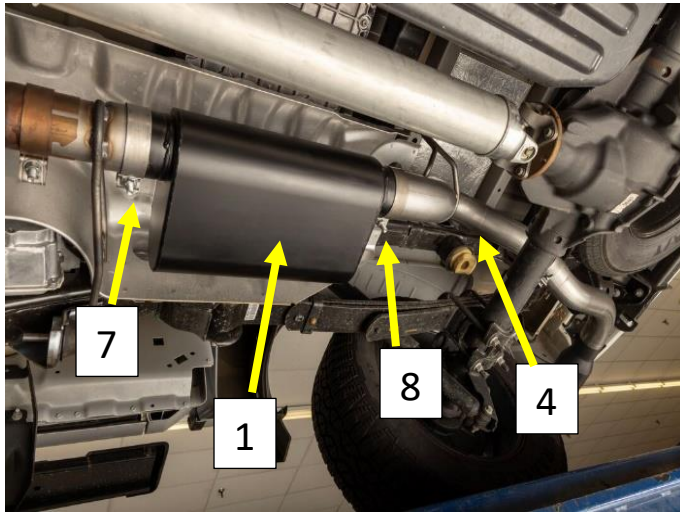
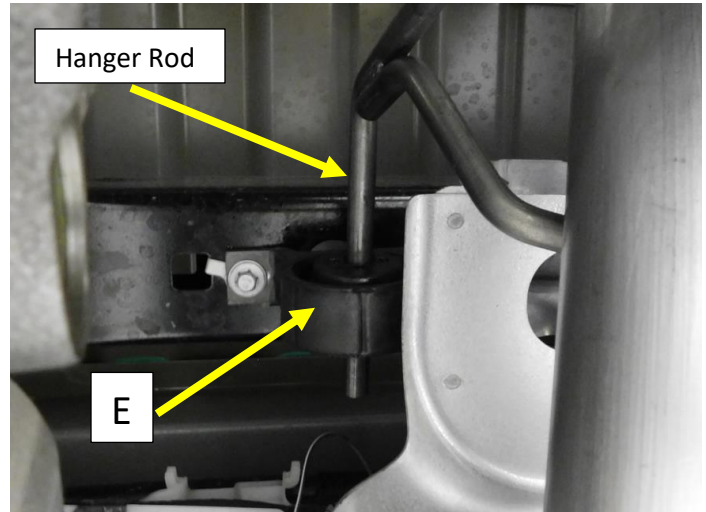

Figure 5
Figure 6
4. Install a 3" band clamp (7) on to the muffler inlet and a 3.5" band Clamp (8) on to the outlet of the muffler with the bolt to the outside and the nut facing down. **Fig. 5**
5. Install the muffler (1) on to the muffler inlet pipe with the Flowmaster logo facing the ground. **Fig. 5**
6. Tighten the 3" inlet clamp (7) to allow for adjustment.
7. Reinstall the muffler hanger assembly (E). * Be sure the tab is in the slot (not the round hole) **Fig. 6**
8. Install the muffler outlet pipe over the axle and install the hanger rod into the muffler hanger and the outlet pipe into the muffler at the same time. **Fig. 5/6** - Tighten the 3.5" clamp (8) to allow for adjustment